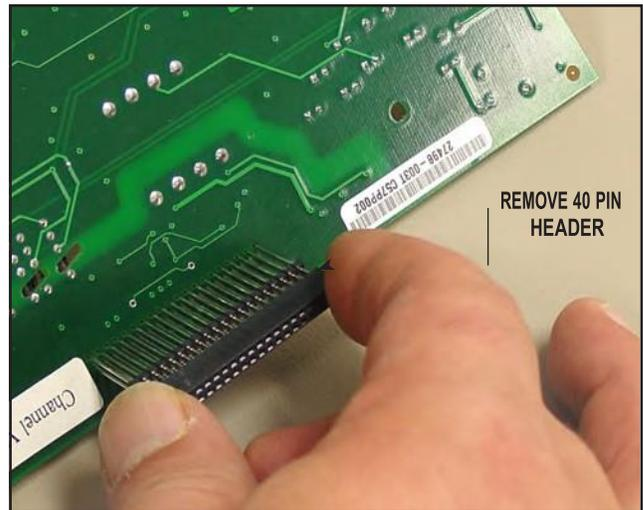

Figure 7.13
4. Remove the 40 Pin Header from the back of the Channel 2 Stim Board. See Figure 7.13.
5. Install 40 Pin Header to back of new Channel 2 Stim Board. Make certain it is completely seated against board. See Figure 7.13.